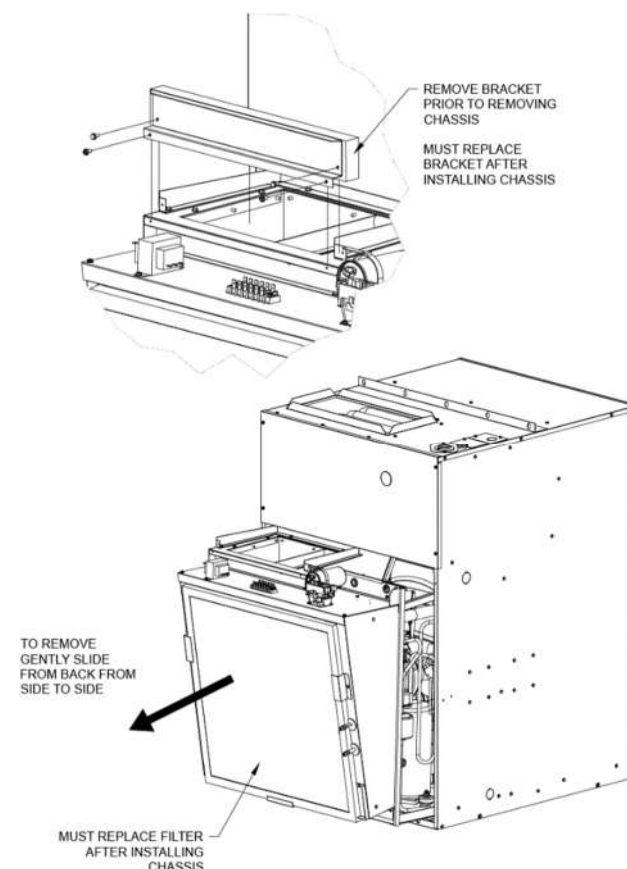

FIGURE 19 - Air Filter Location
5. If an air filter is to be applied to the unit remove lower front access panel to replace filter. (**FIGURE 19 –Air Filter Location**). Place the filter into the filter bracket.